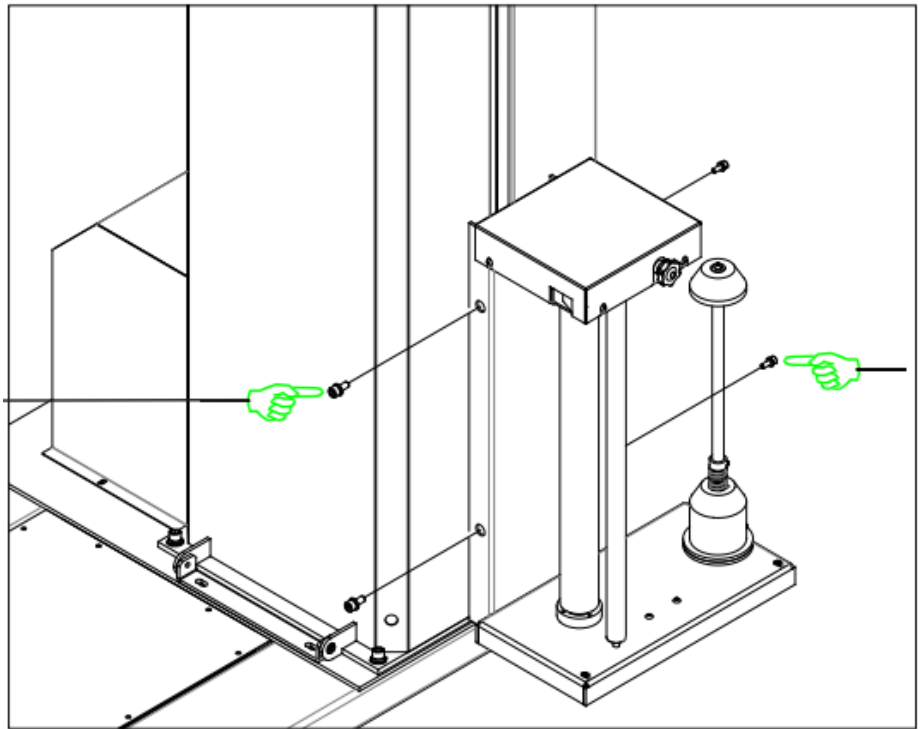

Figure 5
3. Screw the film carriage into the post (See Figure 5)